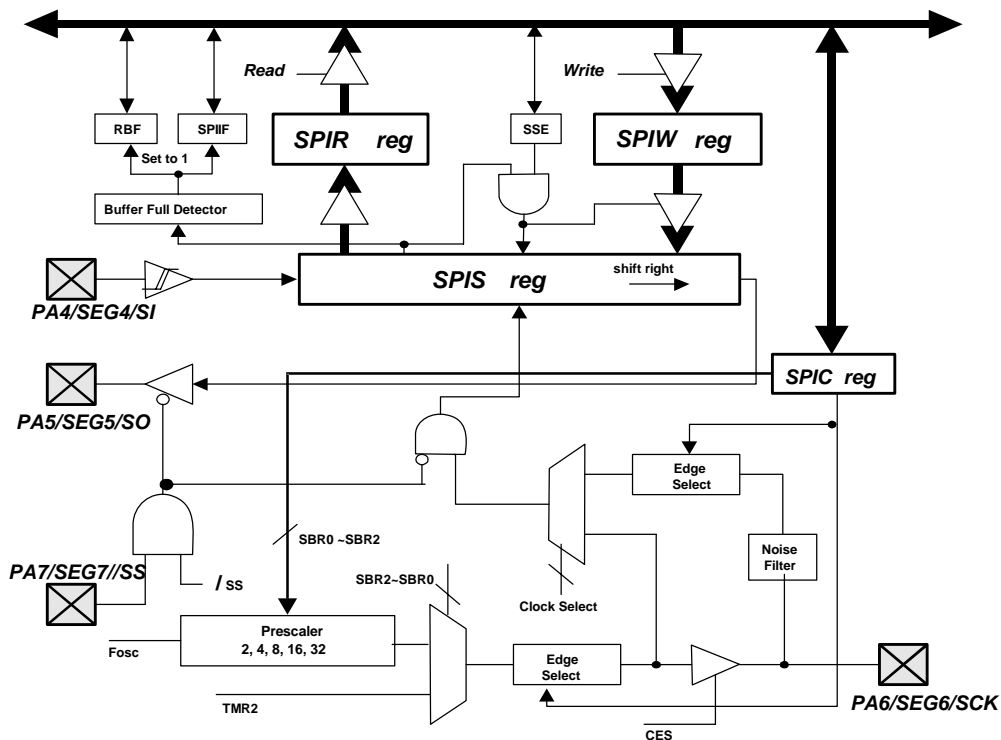
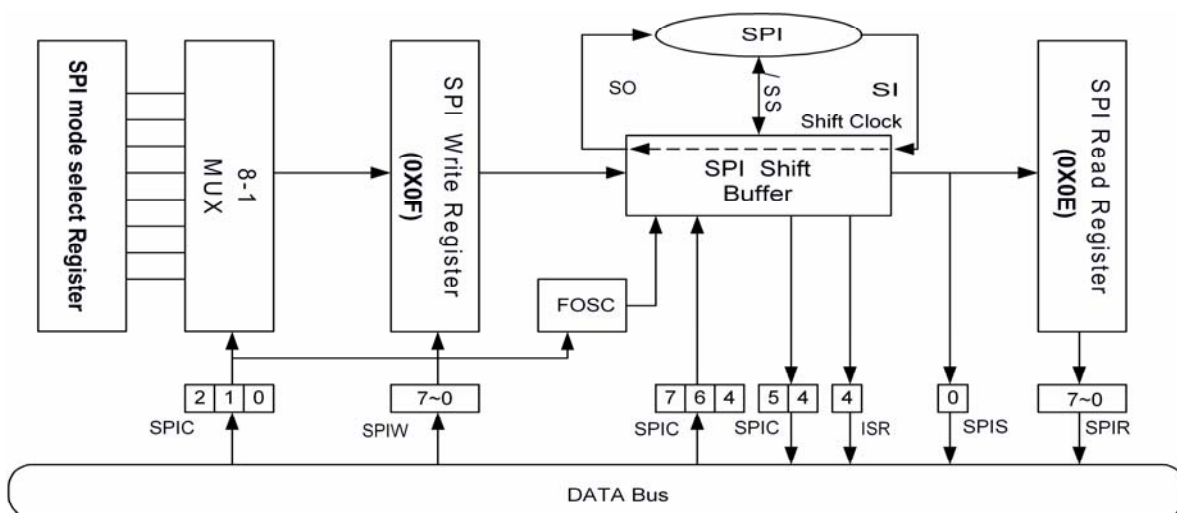

Figure 6-22 SPI Block Diagram
Figure 6-23 The Function Block Diagram of SPI Transmission
Below are the functions of each block and explanations on how to carry out the SPI communication with the signals depicted in Figure 6-22 and Figure 6-23.
- Timing is shown in Figure 6-23 and 6-24.
- Timing is show in Figure 6-23 and 6-24